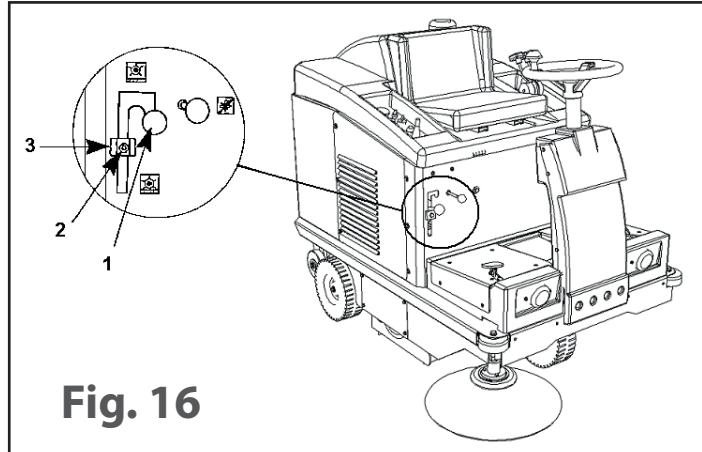

Fig. 16
- Position lever **Part. 1 Fig. 16** so that the central brush is raised.
- Loosen screw **Part. 2 Fig. 16**.
- Lower the adjuster **Part. 3 Fig. 16** by 3/4 mm or by the desired distance.
- Secure the adjuster by tightening screw **Part. 2 Fig. 16**.
- Position lever **Part. 1 fig. 16** above the adjuster **Part. 3 fig. 16**.
- The central brush can be adjusted until the adjuster **Part. 3 fig. 16** reaches the end of stroke; after this, the brush must be replaced.